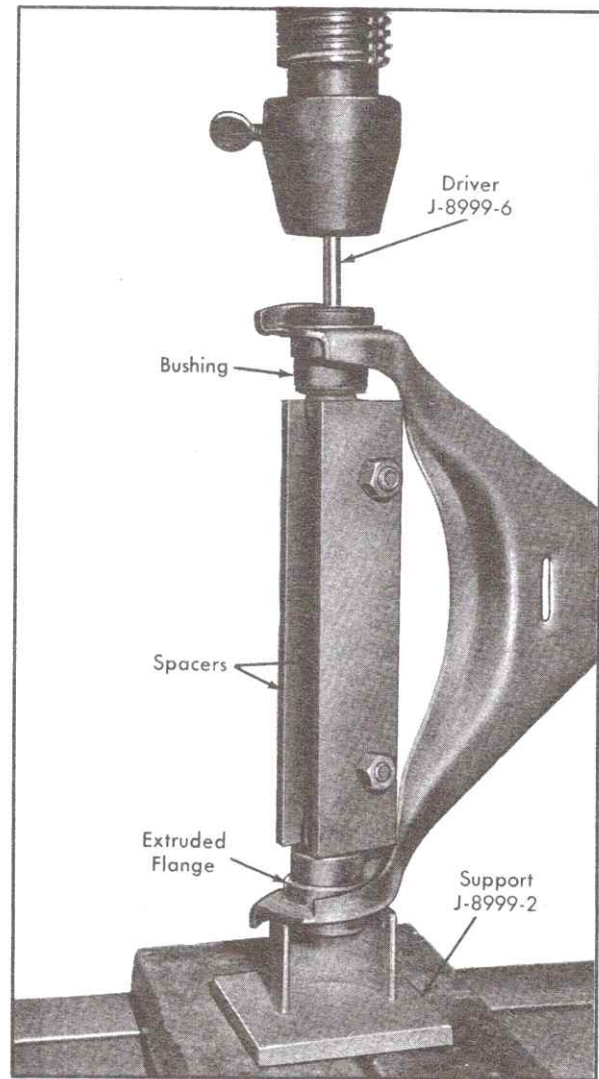

Fig. 3-19 Removing Bushing from Upper Arm
2. Install spacers on shaft between arm ends. Secure spacers to shaft with bolts and nuts, Fig. 3-19.
6. Drive shaft downward until spacer plates touch extruded flanges of control arm, Fig. 3-19.